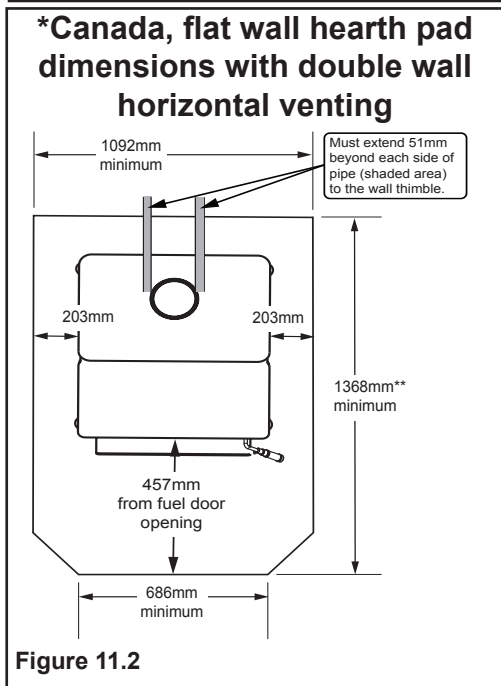

Figure 11.2
**In Canada**, similar floor protection must be provided 18 inches (457mm) in front and 8 inches (203mm) from the sides and rear of the appliance unless the hearth pad is placed against the wall (**Figure 11.2**). Then the clearance may be reduced using double wall pipe and the **Clearance to Combustibles** table listed on page 12.
**\*Exception:** Non-combustible floor protector must extend beneath the flue pipe when installed with horizontal venting and extend 2 inches (51mm) beyond each side; **See Figure 11.2**